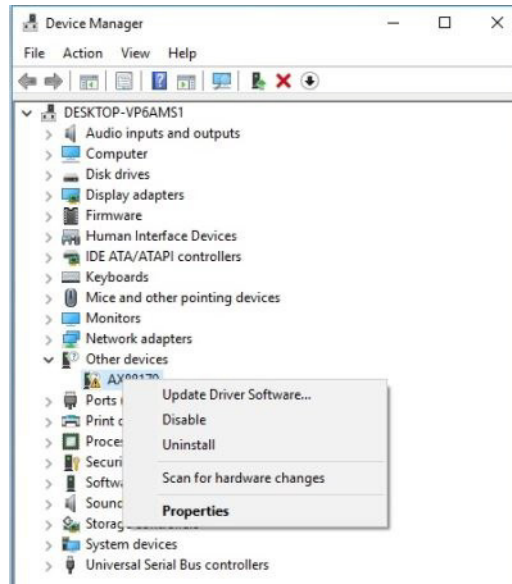

Figure 11. Select “Update Driver Software”
4. Right-click on the AX88179 device and select “Update Driver Software”. Refer to Figure 11.